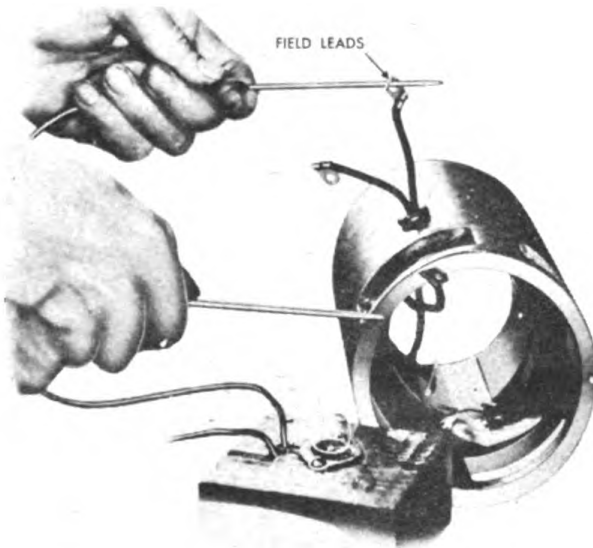
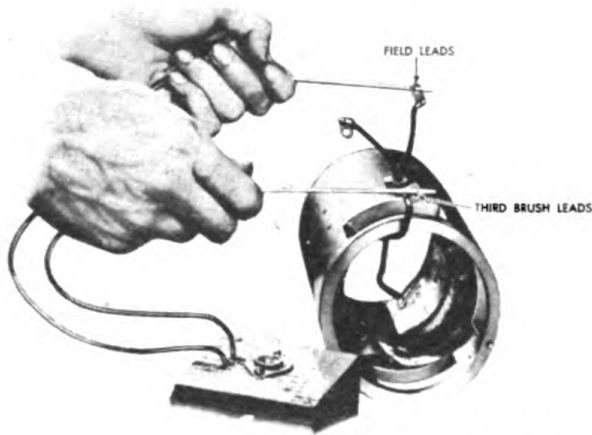

Figure 225. Testing Field Coils for Grounds.
Figure 226. Testing Coils for Opens.
B. With test probes check the field coils for grounds and opens. Touch one probe to the field lead and touch the other to an unpainted ground on the frame as shown in Figure 225. If the field coils or the lead is grounded, the lamp will light. Touch one probe to the field lead and touch the other to the third brush lead as illustrated in Figure 226. If the coils or leads